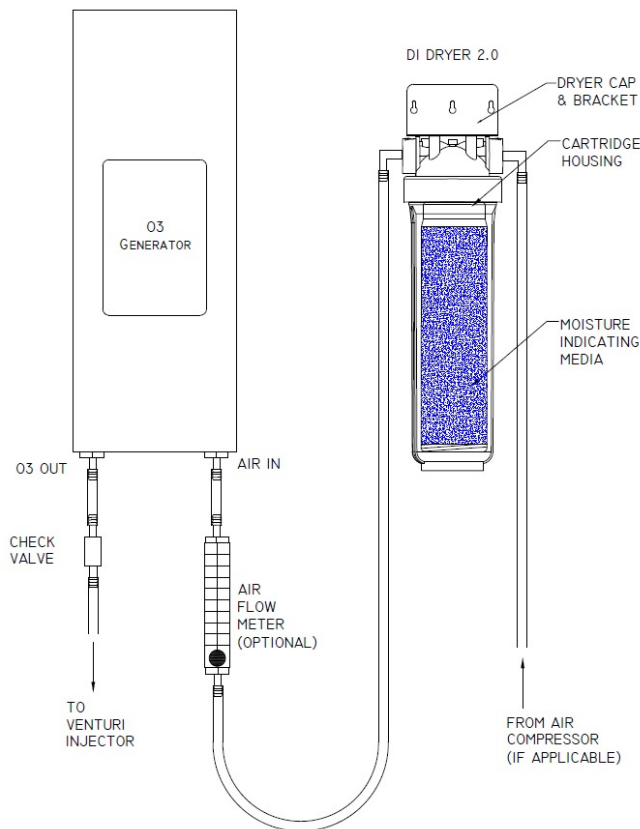

Figure 1. DI Dryer 2.0 Typical Use Diagram
* Reference Figure 1 for typical use *